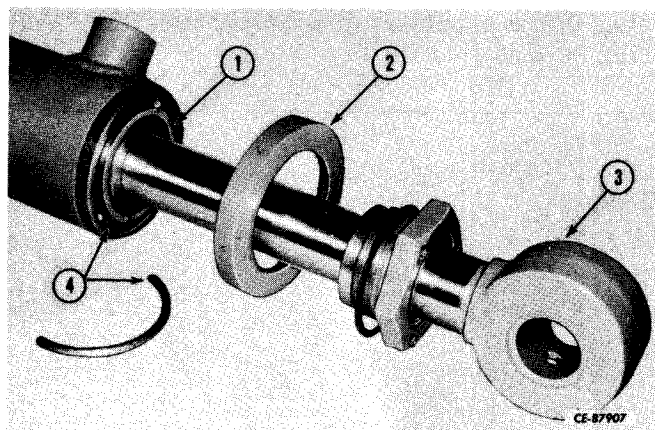

Figure 11-101b
Extend rod (3, Fig. 11-101b) and slide end cover (2) down rod. Push cap assembly (1) in slightly and remove multi-piece ring (4).